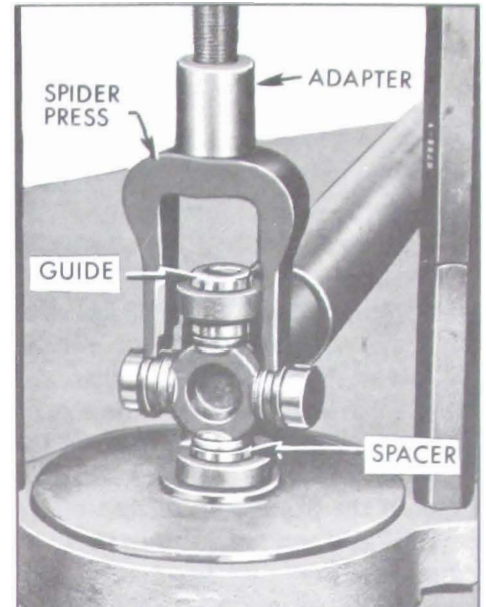

Figure 6-102—Removing Bearing with Guide and Spacer in Place
6. Install Spacer J-9522-5 adjacent to the bearing as in Step 4 and remove the bearing. See Figure 6-102.